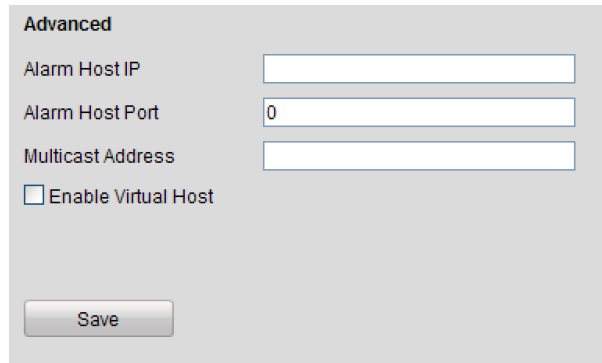

Figure 11-21 Advanced Settings Interface
Step 1 Enter the Advanced settings interface, as shown in the Figure 11-21.